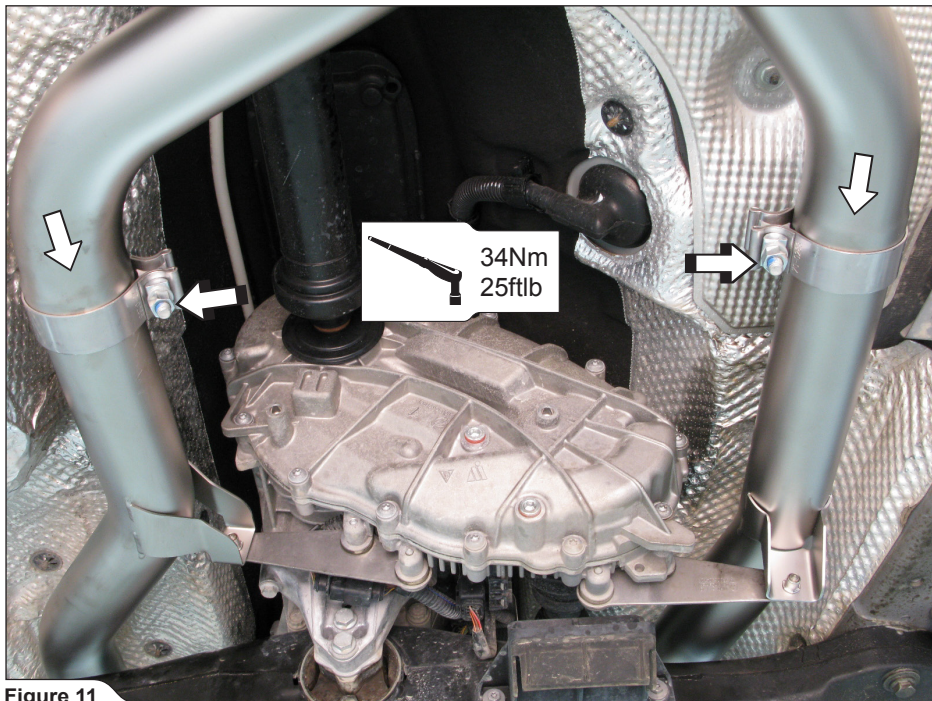

Figure 11
11. **For Optional Front Link Pipe Set only:** slide the Akrapovič middle pipes all the way onto the Akrapovič front link pipes, adjust the clamps and tighten them to the specified torque (Figure 11).